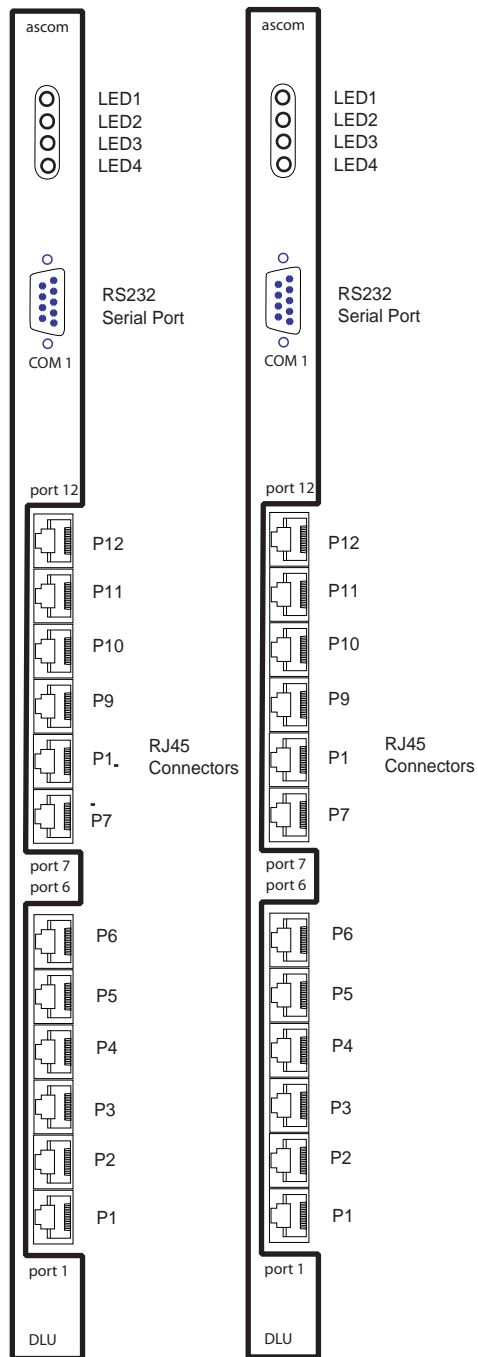

Fig. 24-2 DLU Board
The 24 connectors on the DLU end of the cables are labelled P1 through P24 and should be installed as shown in Fig. 24-2. Connector 1 goes to the first port of the DLU which is at the bottom of the board. The male AMP is connected to the 66 Block.
2. Connect the RJ-45 terminated end of the DLU cable by matching the labeled terminations with the corresponding board position indicated in Fig. 24-2.